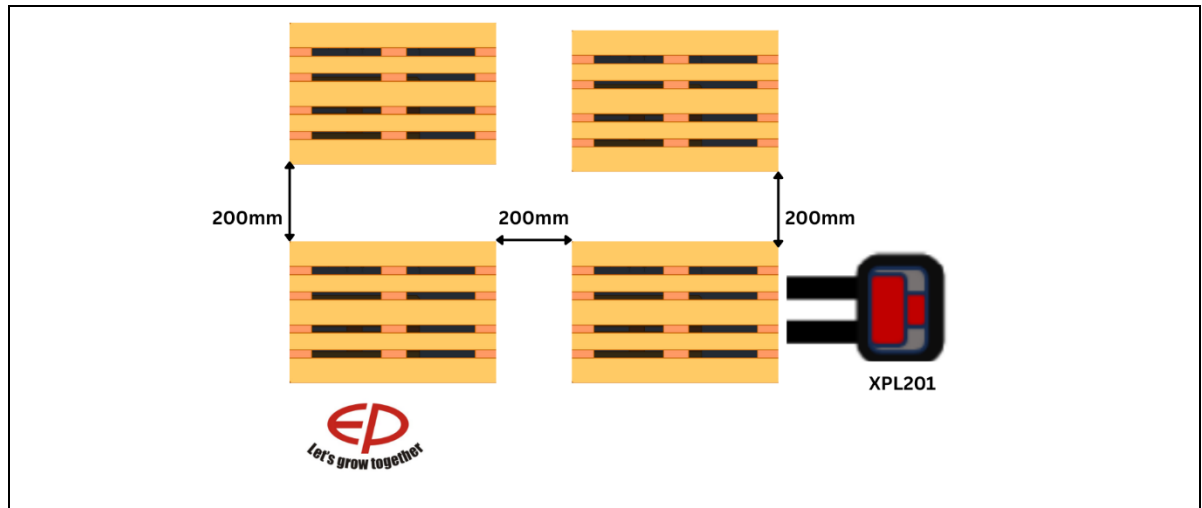

Fig 6.1: Pallet Placement
- Recommended gap between pallets: 200 mm (to allow safe AGV approach, alignment, and obstacle avoidance in storage areas). (Fig 6.1: Pallet Placement)